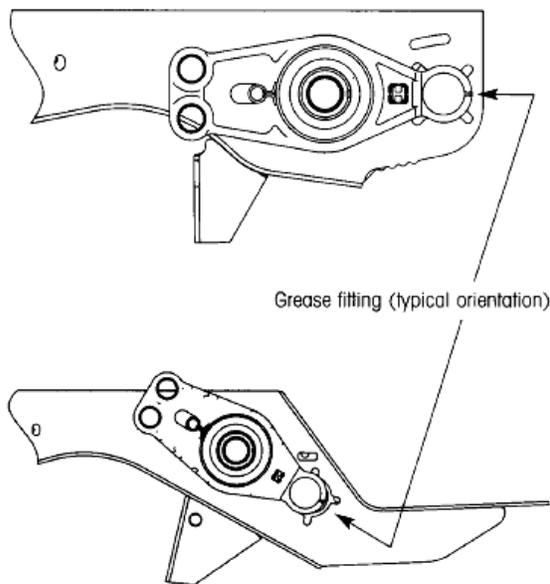

Fig. 7 Accessible grease fitting orientation
3. Align grease fitting to allow easy access (fig. 7)